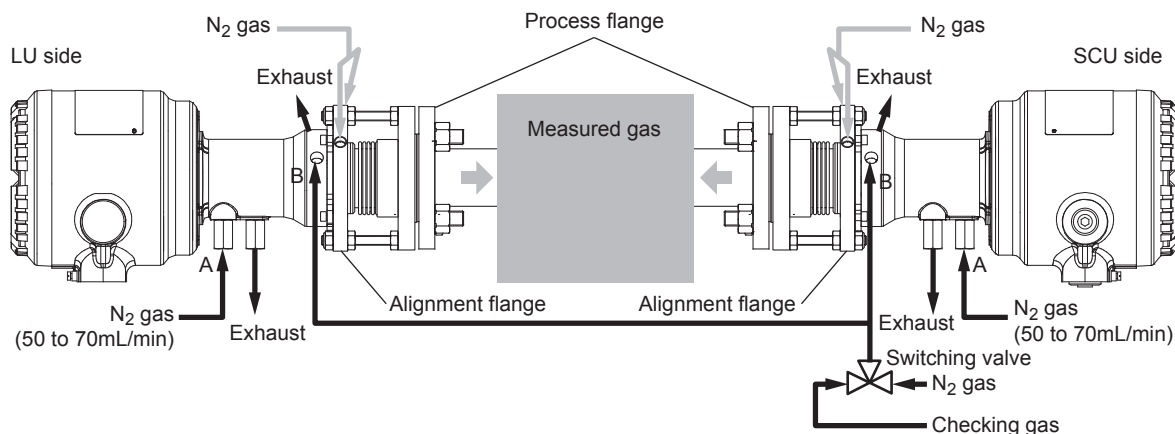

Figure 3.29 Piping for Explosion proof/Flame proof type with validation
**(2) Explosionproof/Flameproof type with validation function**
If TDLS8000 is installed in the process is in situ and the validation function is used, connect the piping as shown in Figure 3.29. For SCU Ex area and LU Ex area, feed nitrogen gas through purge port A at 50 to 70 mL/min and for SCU area and SCU and LU area, feed nitrogen gas through purge port B in Figure 3.29. The piping for these two areas in a unit should be separated because flow rate is different. For flow rate of SCU and LU are, refer to 3.4 (2). For process window purge, feed nitrogen gas through the purge ports of the alignment flange. For validation, SCU area and LU area is used as validation cell and connect the piping with a three-way valve so that the gas can be switched between nitrogen gas and check gas. For process window purge, feed nitrogen gas through the purge port of the alignment flange.